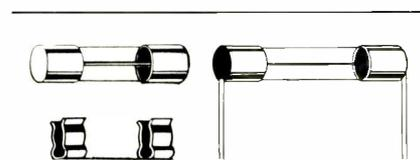

Fig. 1 — Clip-in and solder-in type fuses are among the fuses approved by UL.
■ Not many years ago the UL (Underwriters' Laboratories) allowed TV manufacturers to design clip-in type fuses (Fig. 1) into their sets for the protection of components. Often the designer would specify fuses not only in the power supply line, but in other potentially hazardous circuits, such as the horizontal circuit. A few years ago, UL decided that these fuses were being improperly replaced with higher rated fuses because they were easily accessible by the user. They decided to avert danger by allowing only size-limiting and/or solder-in pigtail type fuses to be used.